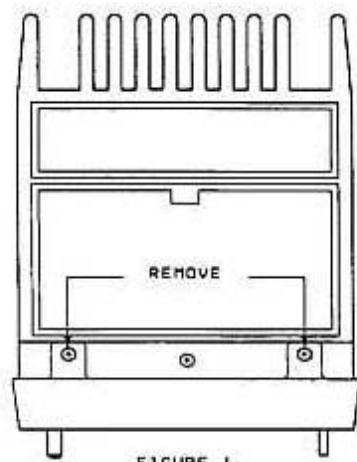

FIGURE 1
3. Remove the shield plate from the VHF Final unit (4 screws). Figure 1.